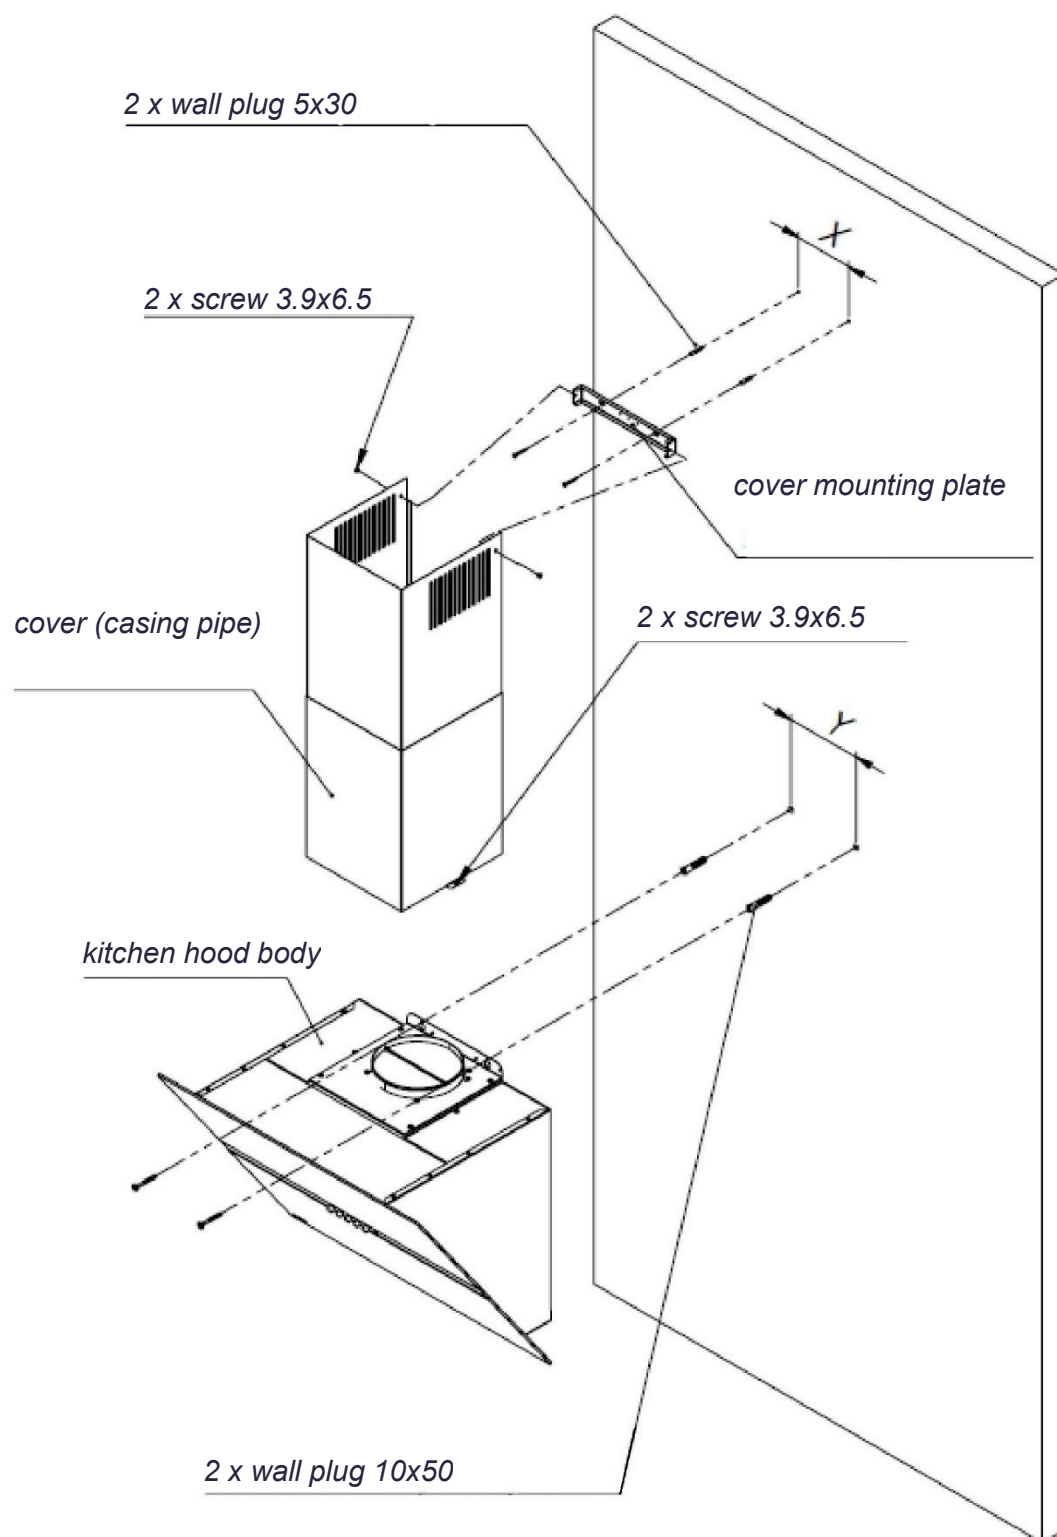

Fig. 4
- Mark the spacing of the mounting holes of the kitchen hood housing (Y) Fig. 4
- Place the mounting frame of the cover on the marked height and mark mounting holes (X) Fig. 4